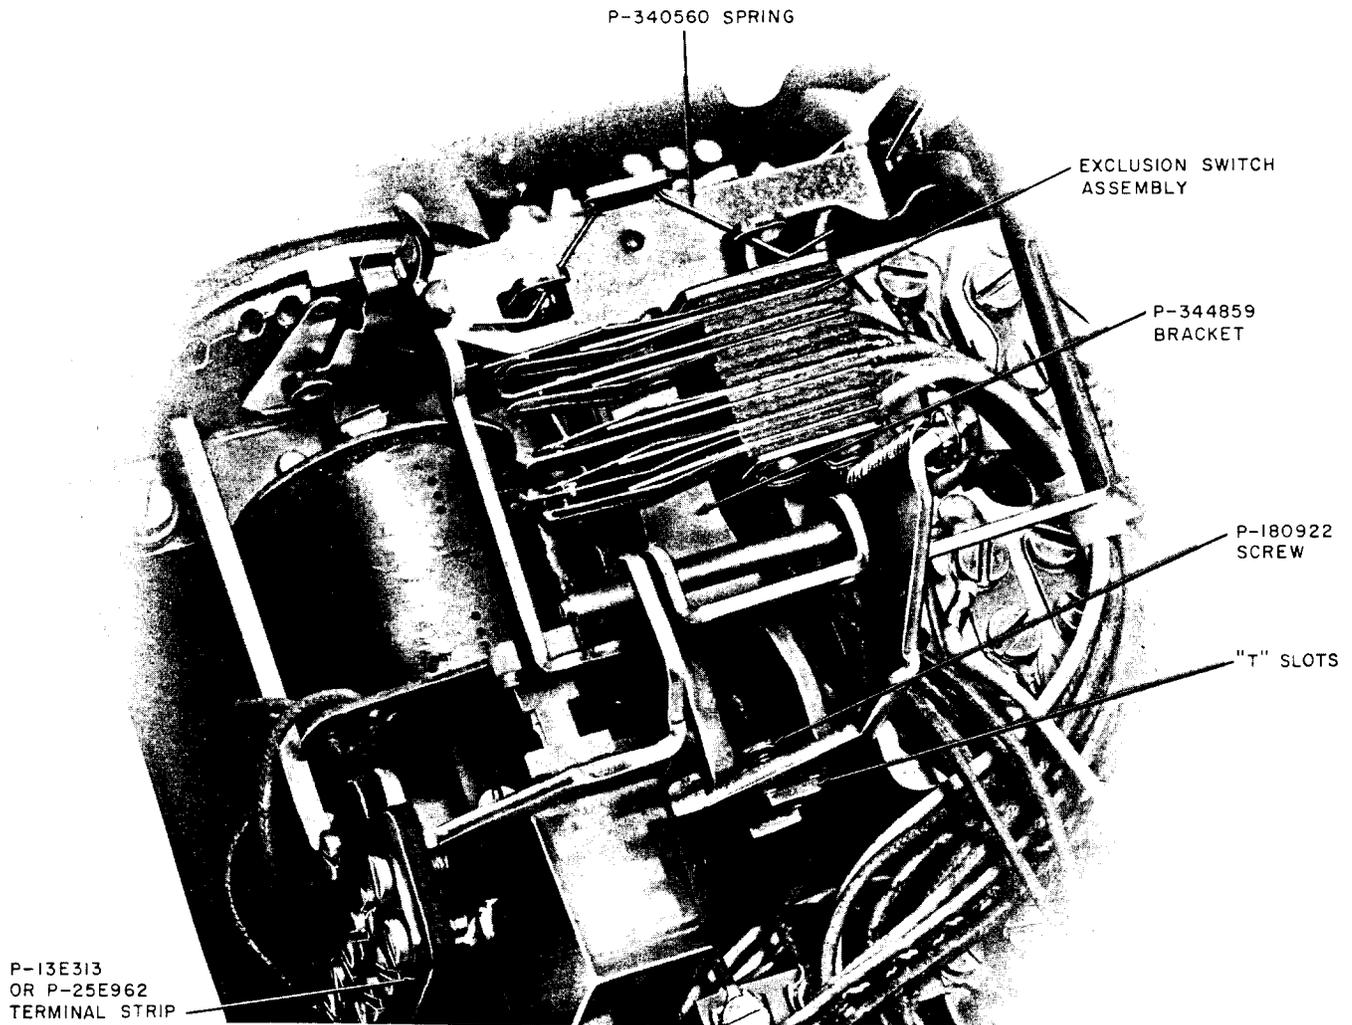

Fig. 5—D-179935 Kit of Parts, Installed
2.03 A D-179935 Kit of Parts (ordered separately) can be installed in the 1563HB telephone set when the exclusion feature is required (Fig. 5).
- (1) Insert the P-344859 bracket into the two T slots precut in the line switch bracket (Fig. 5).
- (2) Tighten the P-180922 screw which holds the bracket in the T slots.
- (3) Mount the P-340560 spring and exclusion switch assembly on the bracket (Fig. 5).
- (4) Remove the P-13E953 plunger from the left side of the telephone set housing and replace it with the P-14A613 exclusion plunger.